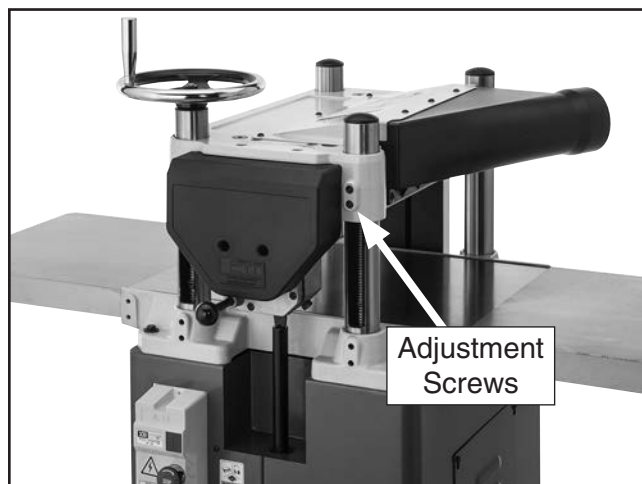

Figure 51. Location of headstock micro-adjustment screws (one side shown only).
9. If necessary, micro-adjust headstock position by loosening cap screws shown in **Figure 51** and raising or lowering headstock until it is properly aligned with table.